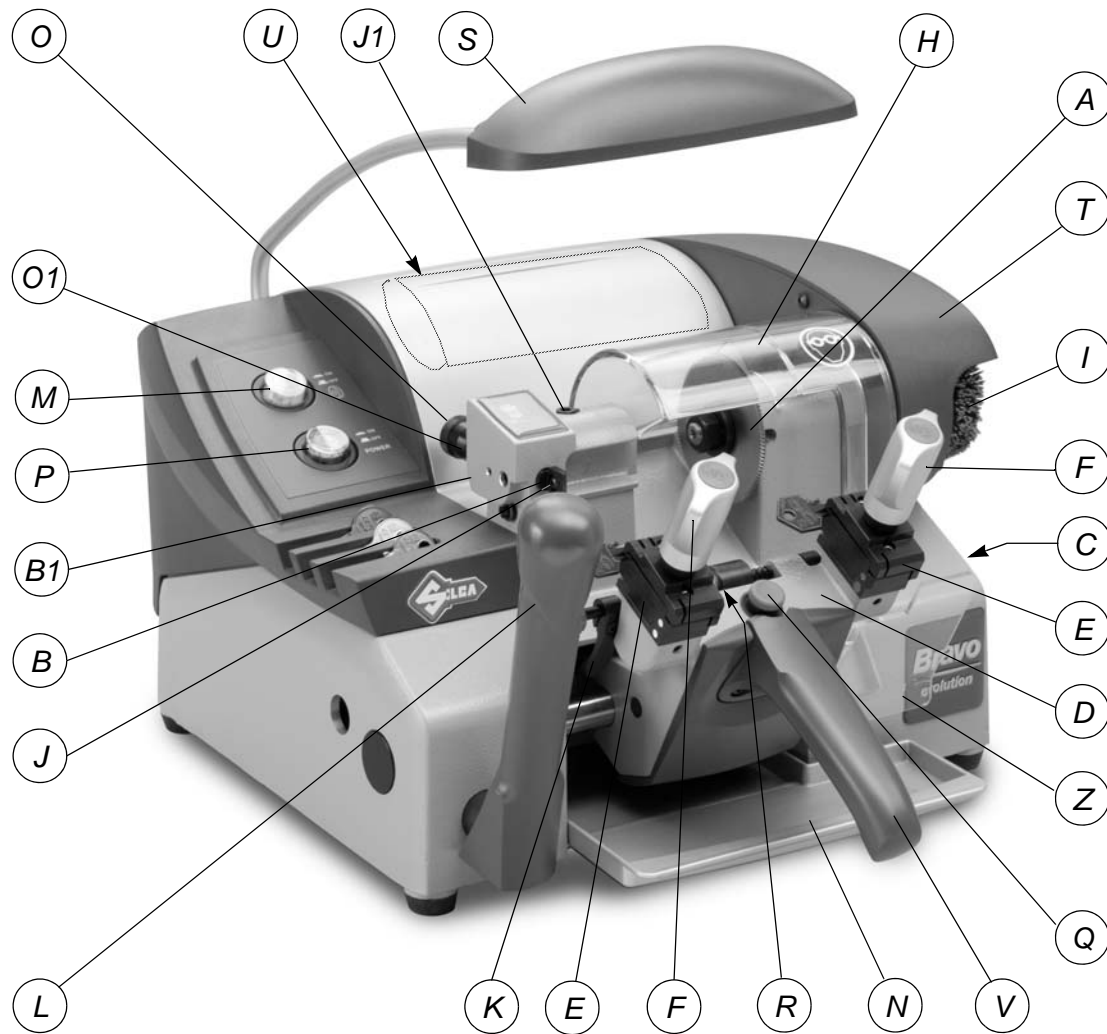

Fig. 5
The control panel with 2 controls is located on the left-hand side of the BRAVO key-cutting machine: the start-up switch for the motor (P) and the push button for the brush (M) (fig. 5, page 6).